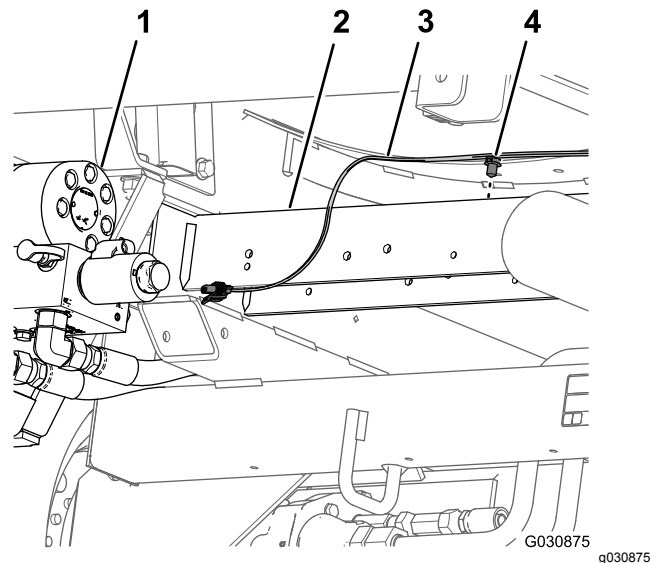

Figure 59
6. Remove the push-in fastener that secure the rear wire harness (Figure 59) to the holes in the rear cross tube (rearward of the hydraulic-traction motors).